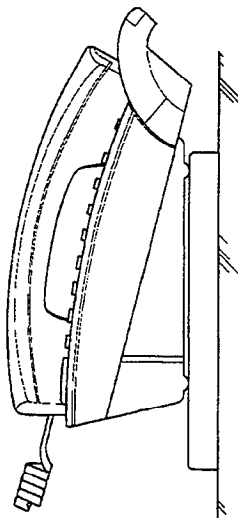

Figure 4-26 Installed Wall Mount Unit
7. When properly installed, the wall mounted Digital Multiline Terminal looks similar to the one shown in Figure 4-26 Installed Wall Mount Unit.